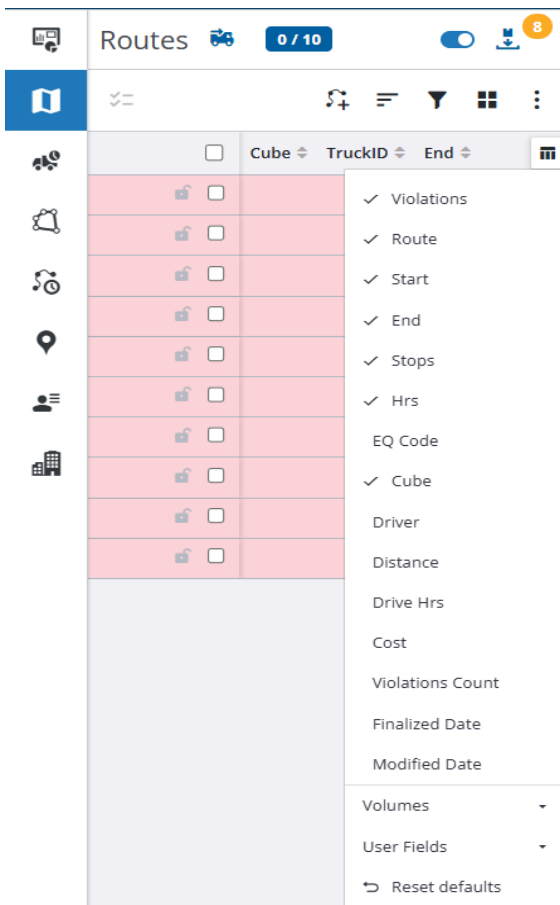

Figure 59 - Route grid configuration
- Click on the Configuration button (scroll to right) to select columns and a number of fields or volumes (see Figure 59 below). Configured data is retained between sessions.